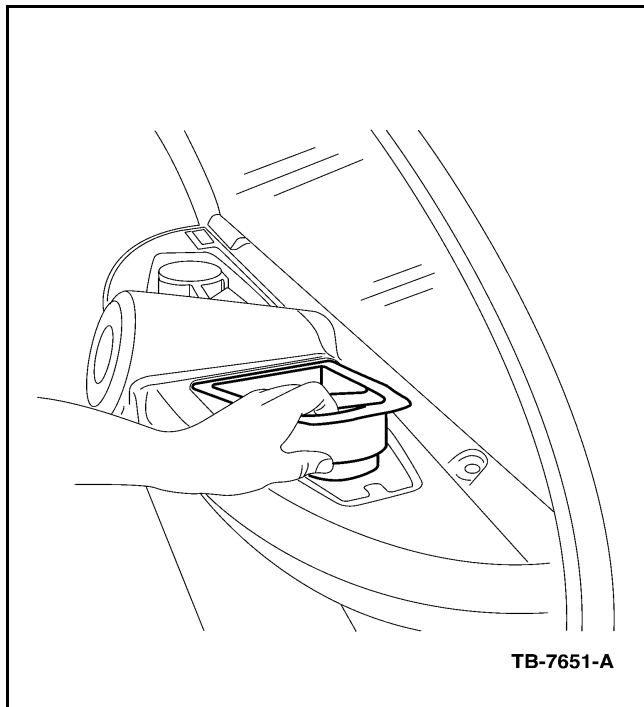

Figure 1 - Article 03-18-4
4. Remove passenger side cup holder assembly (Figure 1).